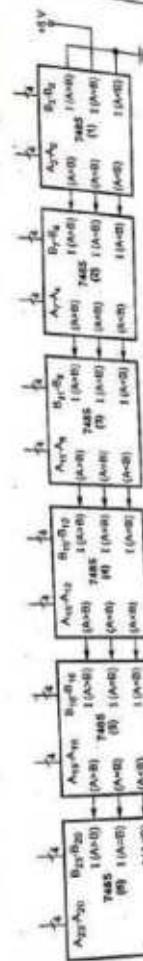

Fig. 4.18.10 24-bit comparator
**Solution :** By cascading six 4-bit comparator ICs as shown in Fig. 4.18.10 we can build a 24-bit magnitude comparator. (Refer Fig. 4.18.10 on next page).